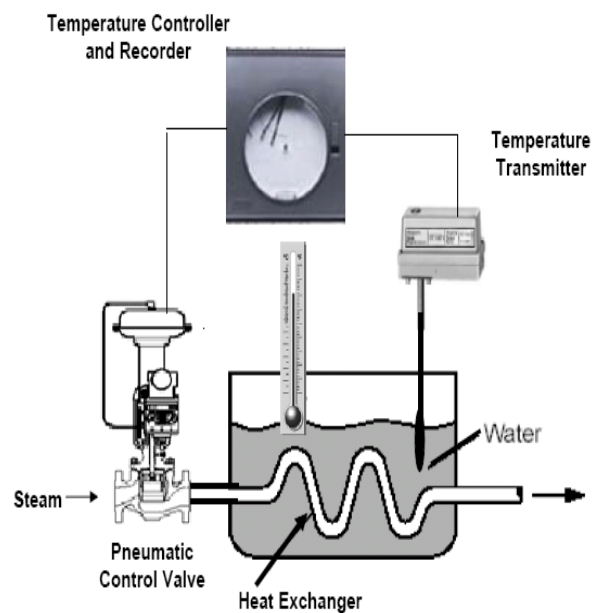

Figure A4c / Rajah A4c
- c) Based on Figure A4c, construct a piping and instrumentation diagram (P&ID) for the measurement temperature process.